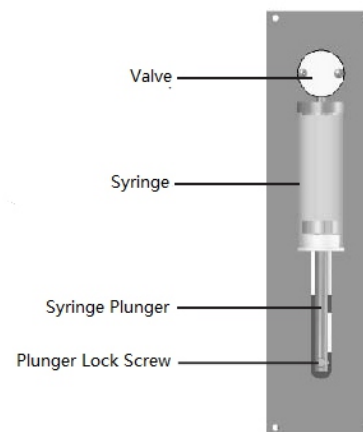

Figure 5-1 Syringe Replacement
- 5 To install the syringe (as shown in Figure 5-1)